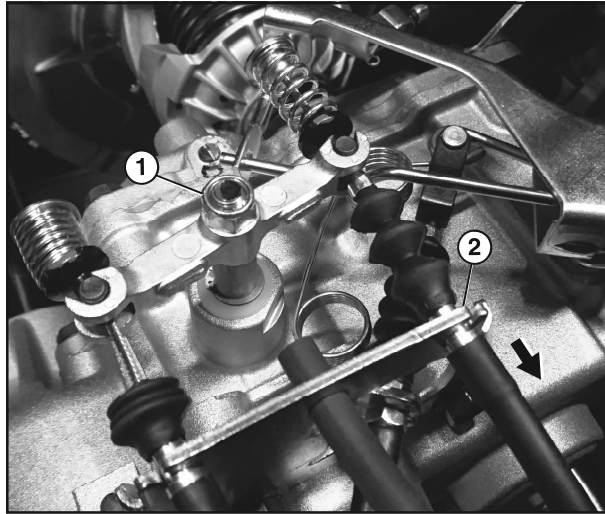

Figure 6-32
- 12. Remove nut (Figure 6-32, (1)) from the shifter shaft.
- 13. Pull the cables back out of the cast bracket on the transaxle and slide the inner cables out of the slot (Figure 6-32, (2)).